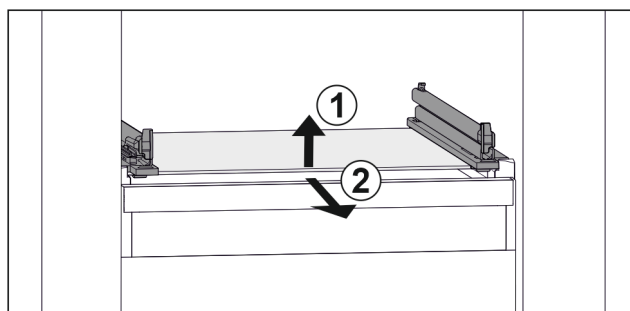

Fig. 107 Example illustration of glass shelf
- Lift glass shelf at the front. Fig. 107 (1)
- Take out glass shelf to the front. Fig. 107 (2)